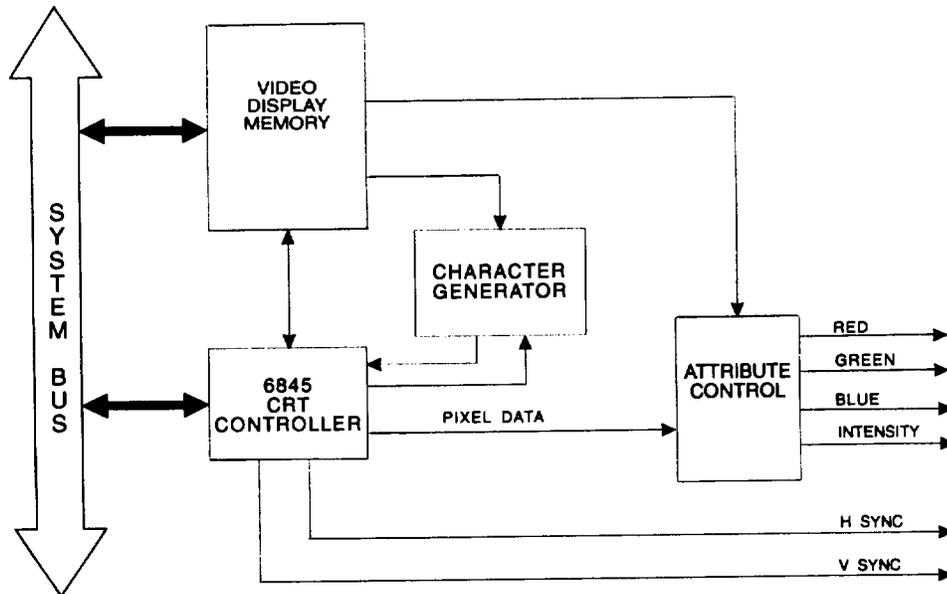

Figure 1-8. 1A2A7 Color Graphics Adapter CCA Functional Block Diagram.
- g. **1A2A7 Color Graphics Adapter CCA.** This CCA (fig. 1-8) is one of two display controllers in the TS-4320, and provides standard IBM PC compatible video modes at a hardware level. Based on the 6845 CRT timing controller, the CGA CCA contains the video memory which holds the information to be displayed, the character generator which is used to generate dot information in character modes, and all necessary timing and sync generation for display control.